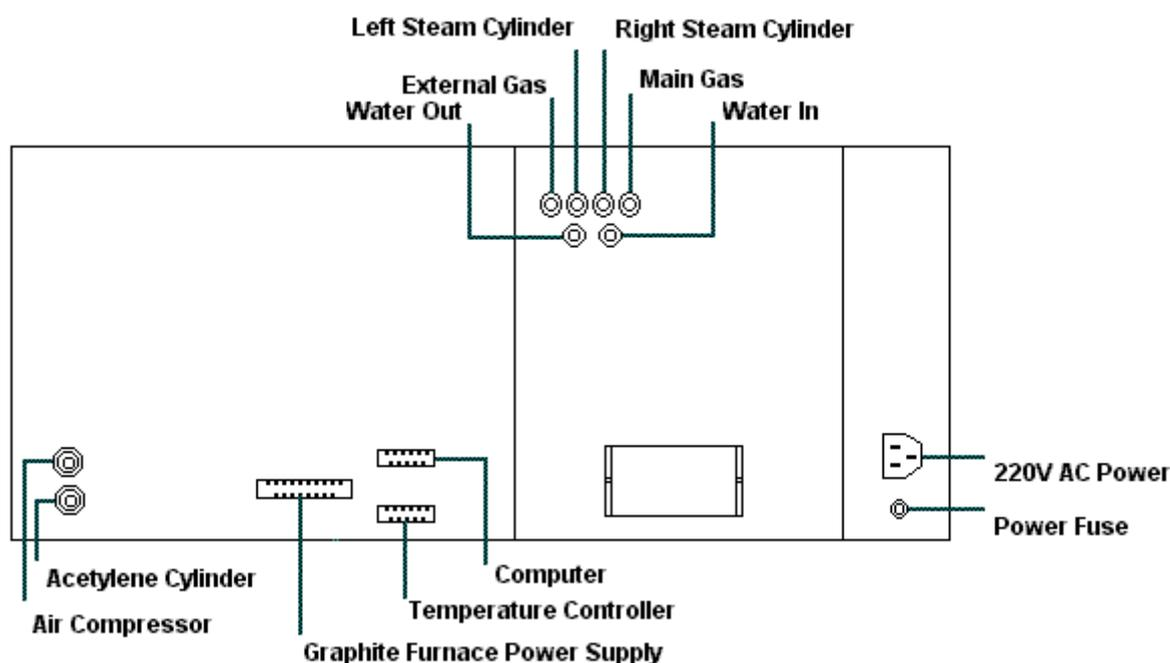

Fig. 2-4 The rear side of the main unit of AAS
Put the main unit on the laboratory bench carefully for connecting the power supply and gas piping, as shown in Fig. 2-4.
(1) Connection of the main unit with the power supply: At the lower right side of the back plate of the main unit can be found a socket (See Figure 2-4). Connect one end of the supplied power cord to this socket and its other end to the socket of the power supply.
(2) Connection of gas piping
(a) Connection of air piping: Connect one end of a black air tube with appropriate diameter and length to the outlet of air compressor (equipped with a special gas-piping interface for your ready insertion). And insert its other end into the inlet for air compressor on the back plate of main unit (See Figure 2-4).
- (1) Connection of the main unit with the graphite furnace power supply (See figure 2-4, 2-5).
- (2) Connection for the protection gas piping (See figure 2-4, 2-5).
- (3) Connection for the cooling water piping (See figure 2-4, 2-5).